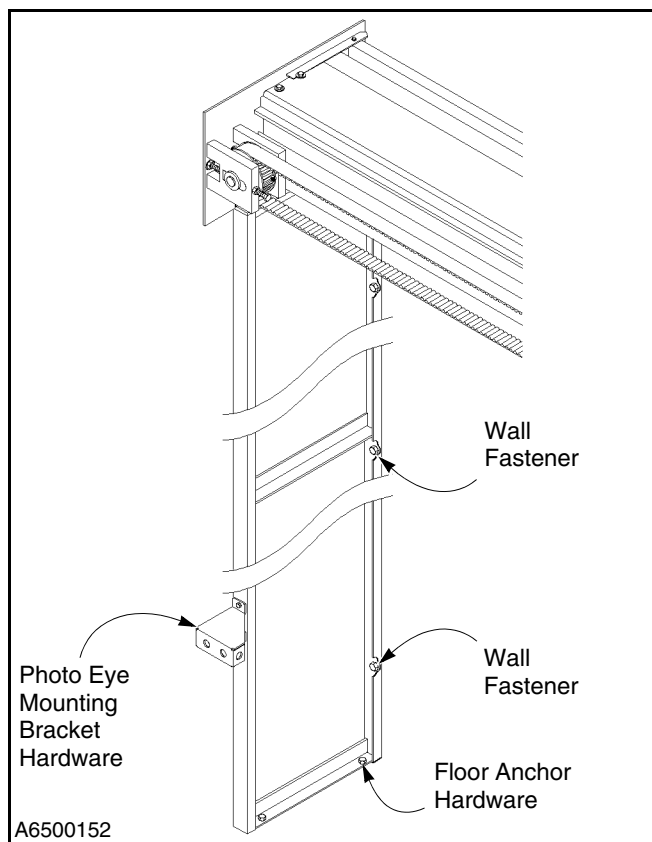

Figure 16
3. Check that the mounting hardware securing the side panels to the wall and floor are in place and tight. Also inspect the hardware securing the photo eye mounting brackets to the side panels. Tighten and replace any loose or missing hardware, such as wall fasteners, floor anchors, nuts, bolts, and screws. (See Figure 16.)